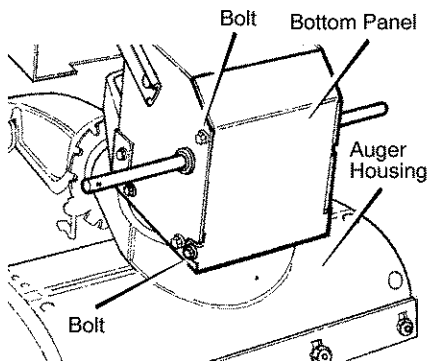

Figure 45
3. Loosen the **bolts** on each side of the **bottom panel** (see Figure 45).